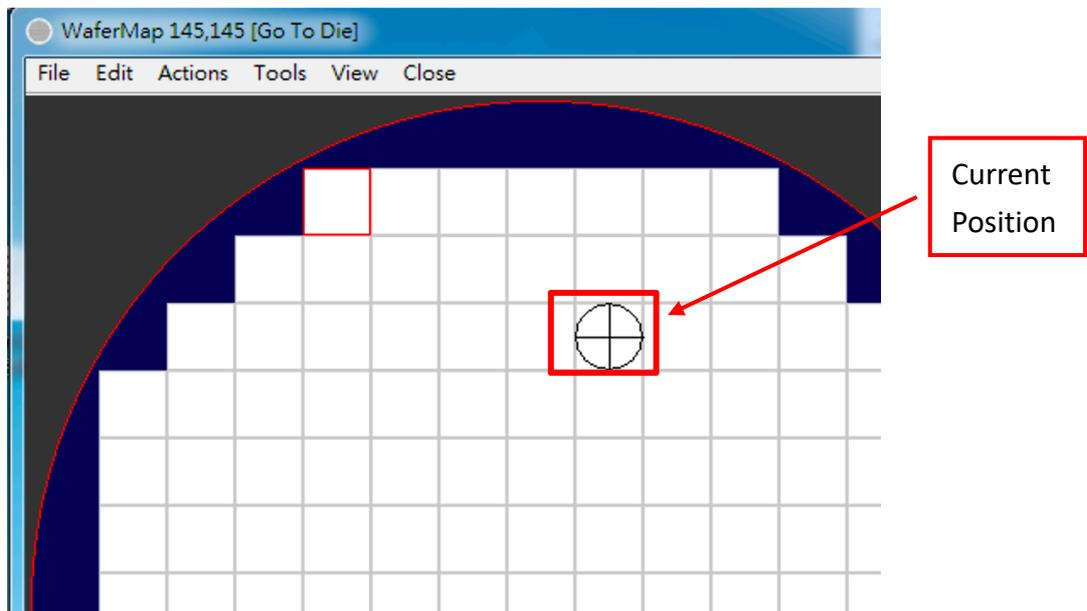

Fig. 39 Go To Die
- Go To Die : Move chuck to the selected die center by mouse click as Fig. 39. It will also perform position fine tuning with Chip Align enabled.